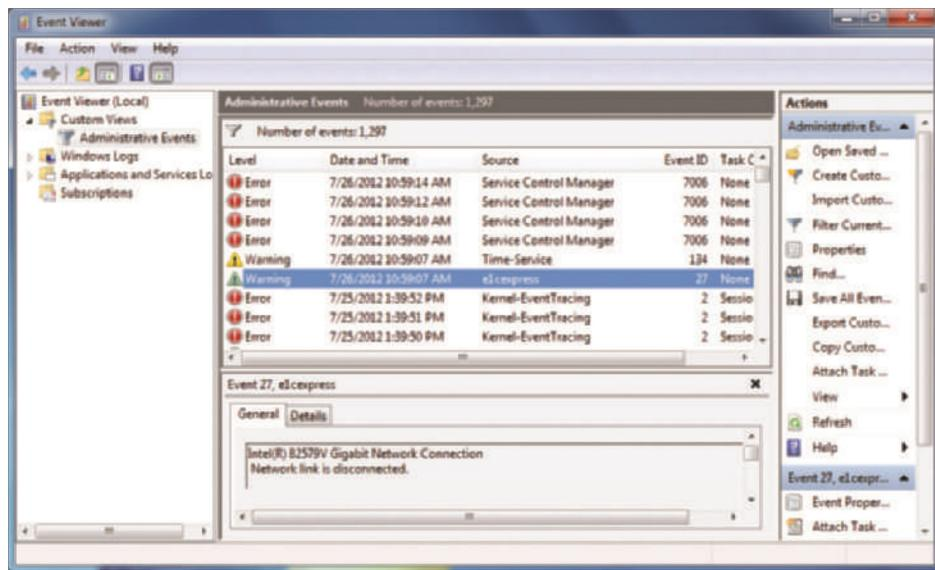

Figure 5-42 Use Event Viewer to find logs that can help with troubleshooting hardware problems
3. In the Event Viewer menu bar, click **Action** and **Refresh** to refresh the list of events. How many new events do you see? Click each new event to see its details below the list of events until you find the event that tells you the network cable was unplugged. Figure 5-42 shows Event Viewer for Windows 7. Describe the details of the event about the network cable.